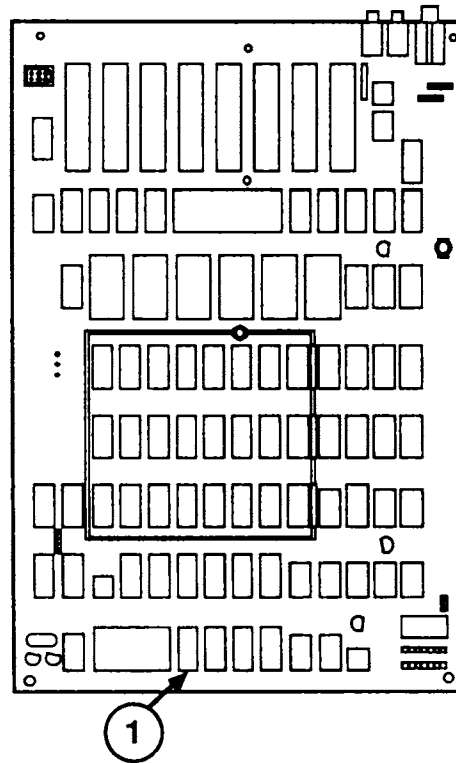

FIGURE 2
IPL.5	Motherboard (Figure 2)
8. **Gently** lift the front of the housing slightly off the base pan and unplug the keyboard connector (Figure 2, #1) from the front of the motherboard.